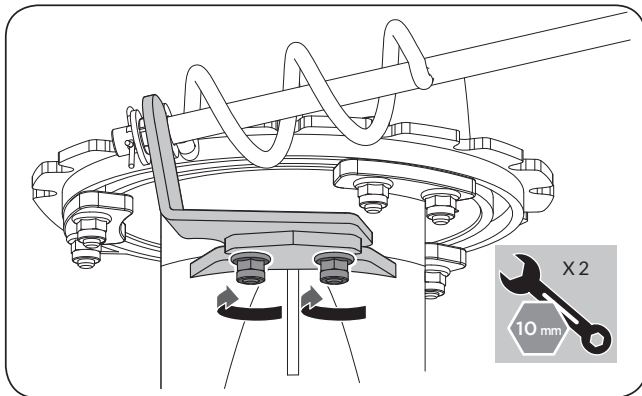

Figure 8b
4. Make sure the spiral at the bottom is fully engaging with the chute crank flange and tighten the two bolts on the chute bracket. (See **Figure 8b**)